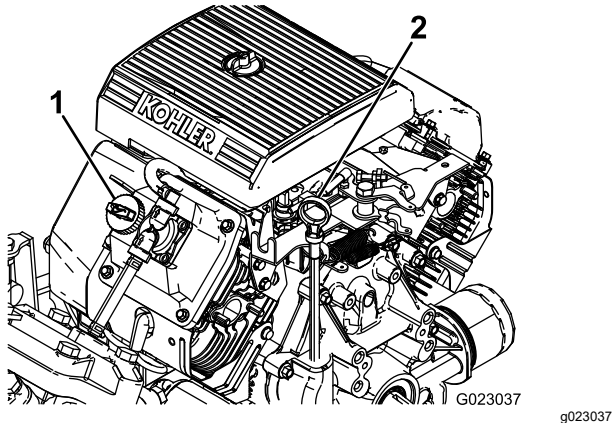

Figure 11
2. Remove the dipstick and wipe it with a clean rag (Figure 11).
4. If the oil level is low, remove the filler cap from the valve cover (Figure 11) and pour oil into the opening until the oil level is up to the FULL mark on the dipstick; refer to Servicing the Engine Oil \(page 48\) for the proper oil type and viscosity.